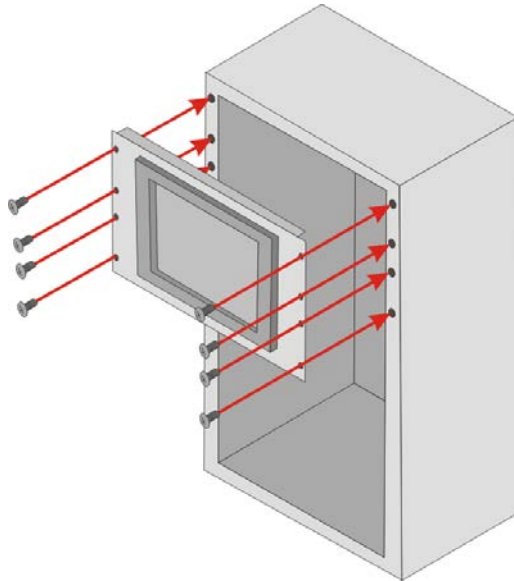

Figure 3-33: Install into a Rack/Cabinet
Step 5: Slide the LCD monitor with the attached rack/cabinet bracket into a rack or cabinet (**Figure 3-33**).
Step 6: Once the LCD monitor with the attached rack/cabinet bracket has been properly inserted into the rack or cabinet, secure the front of the rack/cabinet bracket to the front of the rack or cabinet (**Figure 3-33**).
Step 4: Once the LCD monitor with the attached rack/cabinet bracket has been properly inserted into the rack or cabinet, secure the front of the rack/cabinet bracket to the front of the rack or cabinet (**Figure 3-33**).